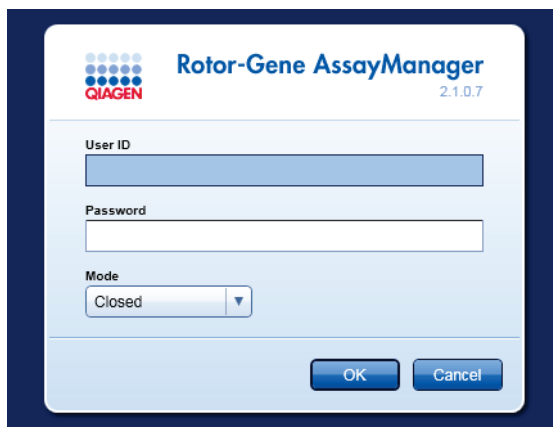

Figure 3. Rotor-Gene AssayManager login screen.
1. Double-click the Rotor-Gene AssayManager software version 2.1 icon on the desktop of the laptop connected to the Rotor-Gene Q MDx (US) instrument.
2. On the Rotor-Gene AssayManager login screen (Figure 3), enter the user ID and password. Select "Closed" from the Mode list and click "OK".